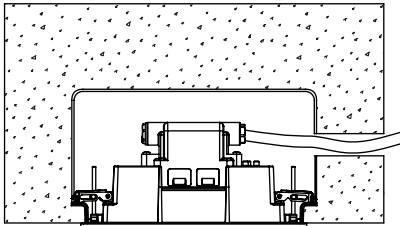

Fig. 1
- a) BST installation blockout (**Fig. 1**).